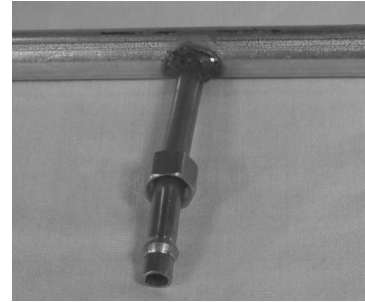

Figure 7
4. Using an adjustable wrench, and turning in a clockwise direction, install the compression fitting into the ember burner gas feed (where the plug was removed in Step 2). See Figure 7.